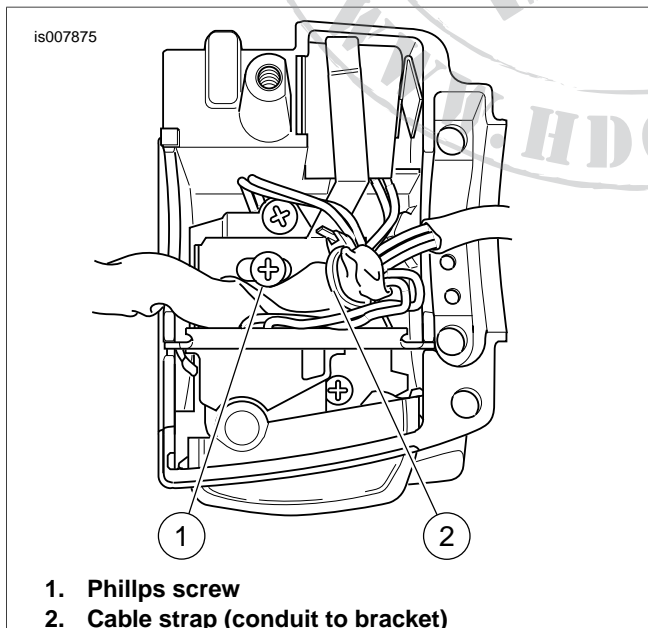

Figure 5. Lower RH Handlebar Switch Cable Strap
1. See Figure 5. Carefully cut the cable strap (2) holding the wire conduit to the turn signal switch bracket.
2. Remove Phillips head screw (1) near securing bracket at center of housing.
2. Remove Phillips head screw (1) holding upper bracket, from housing.
See Figure 5. Insert the tapered end of a **new** 7 inch cable strap into the rear, right side, round hole in turn signal switch bracket. Feed the strap back through the front, right side, hole. The oblong hole is for the bracket screw.